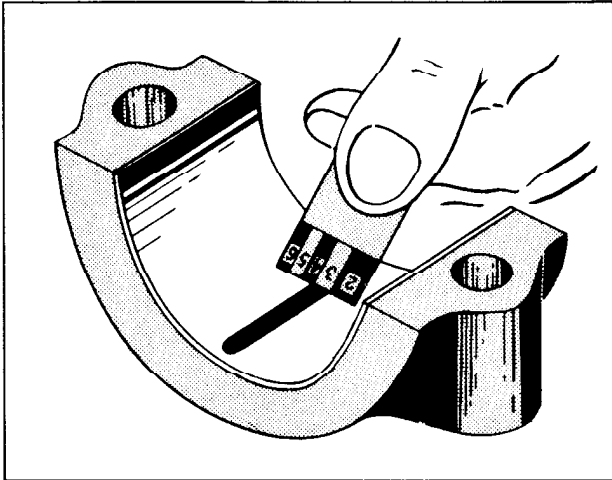

Fig. 8-30 Checking Bearing Clearance
the envelope indicates the clearance in thousandths of an inch. (Fig. 8-30) If this clearance is greater than .0035", replace the bearing and recheck clearance with "Plastigauge".
5. Remove bearing cap and determine bearing clearance by comparing the width of the flattened "Plastigauge" at its widest point with the graduation on the "Plastigauge" container. The number within the graduation on the envelope indicates the clearance in thousandths of an inch. (Fig. 8-30) If this clearance is greater than .0035" for No. 1, 2, 3 or 4 bearings and .0045" for No. 5 bearing, REPLACE BOTH BEARING SHELLS AS A SET. Recheck clearance after replacing shells. (Refer to MAIN BEARINGS - REPLACE).